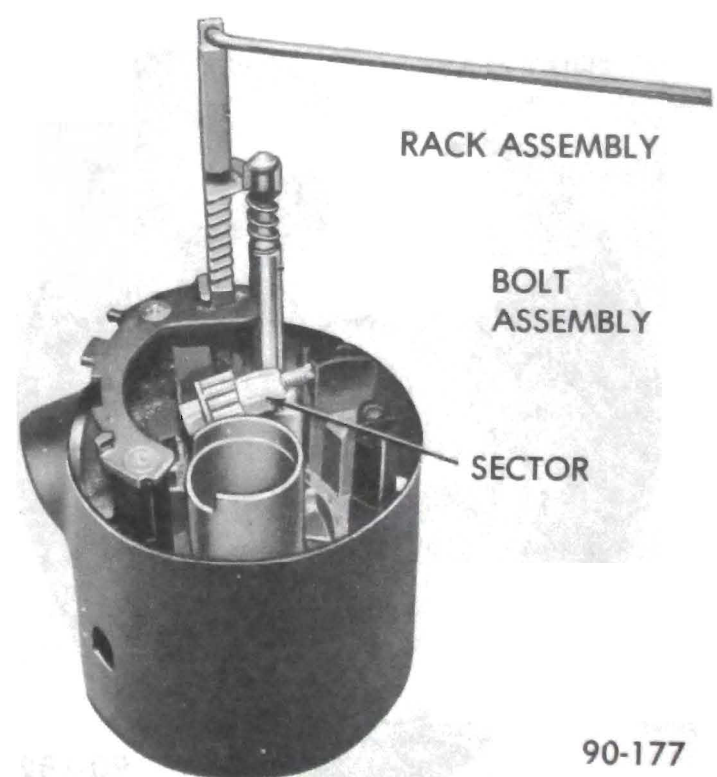

Figure 90-90 Removing or installing Rack and Lock Bolt.
17. Remove the rack and lock bolt. See Figure 90-90.